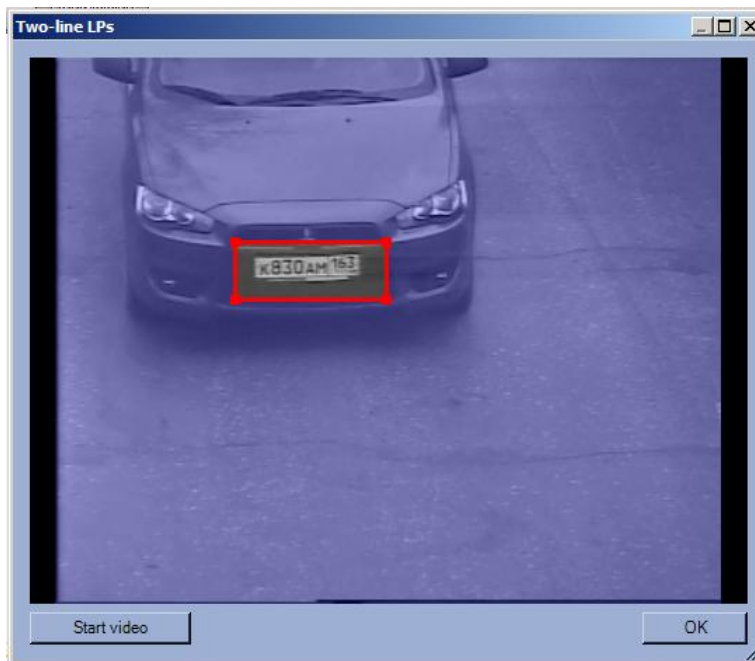

Fig. 7.2—4 Set the parameters of Two-line LPs
- 9.1. Set the «Allow» checkbox to enable the possibility to recognize the two-line LPs (Fig. 7.2—3, 9).
- 9.2. Set the maximum width and height of area where the search of LPs is performed (is set in percent of the full frame) (Fig. 7.2—3, 10). Click the  button to set these parameters. In the «Two-line LPs» opened box click the «Stop video» button when the appropriate frame is appeared and select the area with the required size (Fig. 7.2—4).
10. Set the minimal area width and height where the search of LP is performed (is set in percent of the full frame) by analogy with the «Maximum width» and «Maximum height» parameters – see item 8 (Fig. 7.2—3, 11).